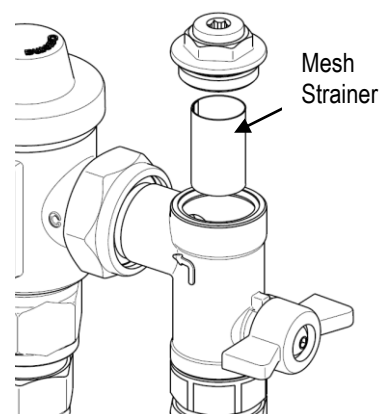

Figure 5: Removing the Inlet Strainer
3. Remove the inlet fitting top cover with a suitable spanner and then remove the mesh strainer, as shown in Figure 5.